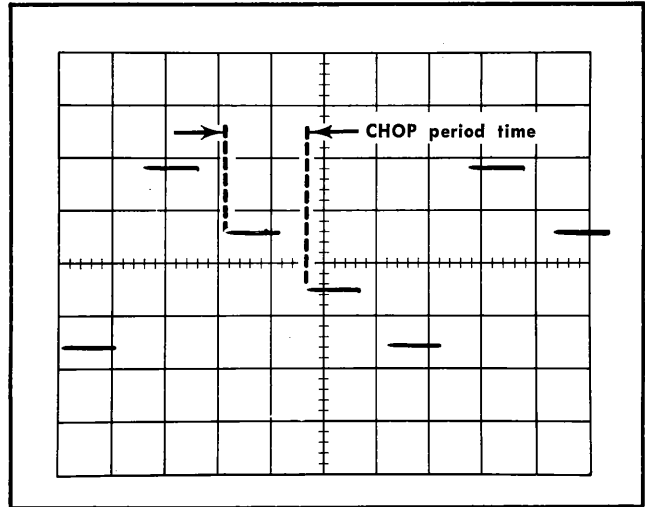

Fig. 5-10. Four-channel chopped trace segments; sweep rate 1 μs/div.
- i. Switch the 2B67 (TRIGGERING) LEVEL to AUTO and the TIME/DIV switch to 1 μs. Note that the traces are replaced by chopped segments, as in Fig. 5-10. (If an uncalibrated 2B67 is being used, it is possible that the segments may not appear. In this event, adjust the 2B67 (TRIGGERING) LEVEL control as necessary to obtain a display as in Fig. 5-10.)
- k. CHECK—CHOP period duration. Measure the period existing between the end of one segment and the end of the next segment. See Fig. 5-10. Period duration should be 2 μs ±0.6 μs. If the equipment fails to pass this step, check the blocking oscillator in the channel switching circuit.